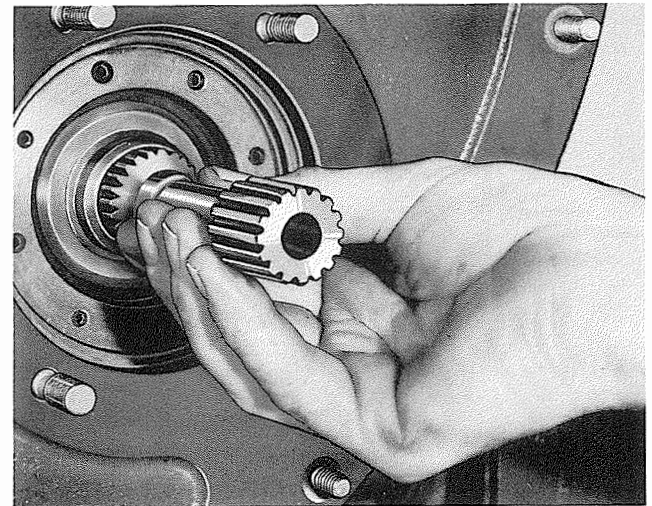
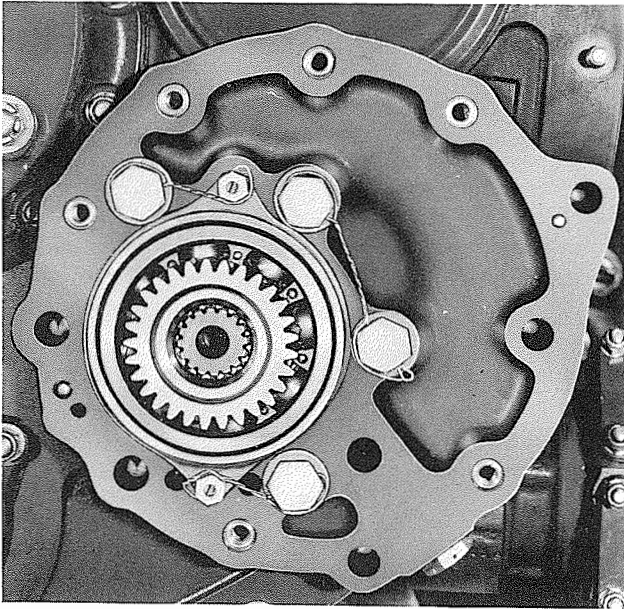

Figure 7-113. Installing Accessory Drive Gear Coupling
Figure 7-114. Accessory Drive Gear Box Front Housing Installed and Lockwired
b. Install the accessory drive gear coupling in the generator drive gear, as shown in figure 7-113. Position the gear box front housing on the right generator mounting pad, engaging the splines of the coupling with the accessory drive gear pinion shaft. Install the four short internally threaded bolts and washers. Torque to 275 - 300 inch-pounds. Lockwire the outer bolts to the bearing retainer screws and lockwire the two inner bolts together. See figure 7-114.